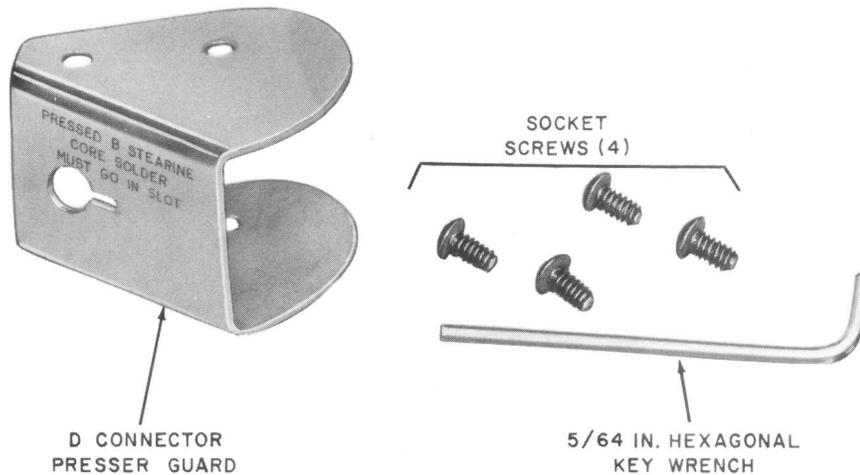

Fig. 3—D Connector Presser Guards
3.06 The guard for the D connector presser is shown in Fig. 3. The guard is secured with four socket-head screws, two on each side of the presser. Using a 5/64-inch hexagonal key, remove the four screws and replace the old guard with the replacement. ***These four screws are the only screws on the presser that should ever be turned.***